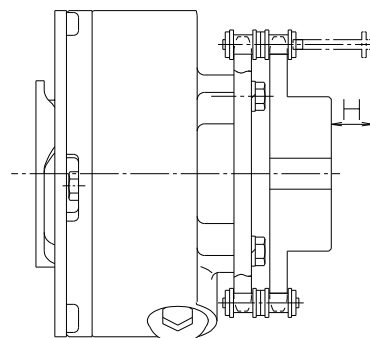

Fig.6
- 3 – 2 . Winding the roller chain and insert the joint link after completion of sprockets alignment, wind roller chain, insert the joint link then fix with the clip. Space shown in table 5 is necessary to insert the joint link.(Fig.6)